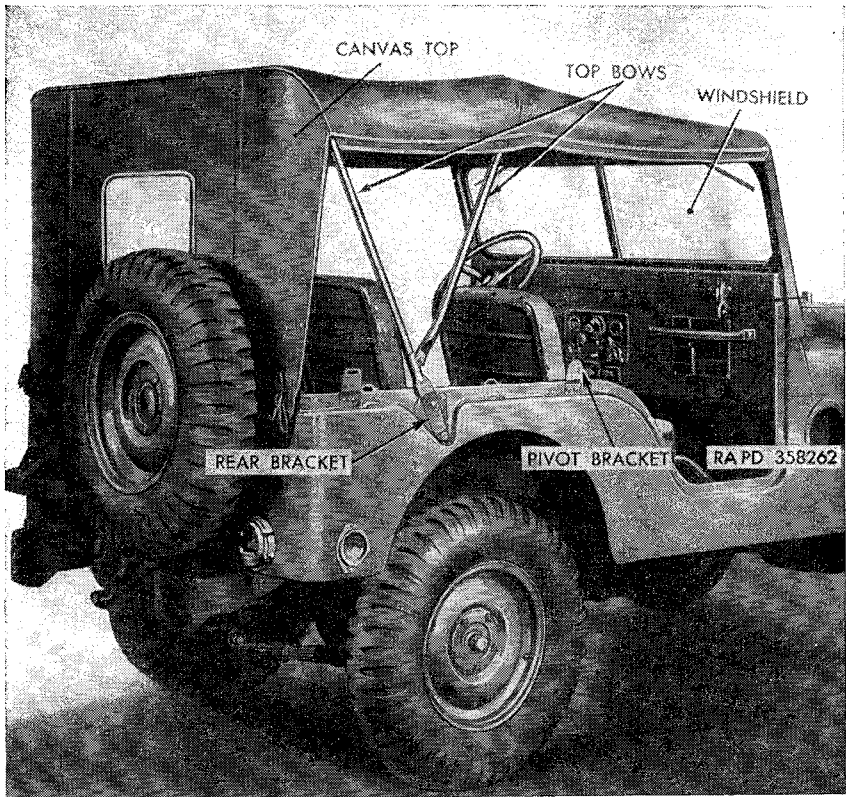

Figure 185. Top cover with rear curtain assembly—installed.
- (3) Lay the top cover with rear curtain assembly (fig. 185) upside down and backward on top of hood assembly.
- (4) Insert the front bead of the top cover into one edge of the top retainer at the top of the windshield. Slide top bead of cover into retainer until bead is centered in place. Flip the top cover over the rear top bow and pull it down to the body rear panel. Secure the top cover to the panel by inserting the six top holddown straps through the six top holddown strap brackets and buckling straps. Secure the top cover bow by fastening the three flaps, mounted on the underside of the top cover, around the front top bow. Secure the top cover to the top rails by hooking the side flaps on the cover over the rails.
- (1) Unbuckle the six holddown straps securing the top cover with rear curtain assembly (fig. 185) to the six top holddown strap brackets and pull the straps out of the brackets. Working inside the vehicle, release the three flaps securing the bottom of the top cover to the front top bow. Release the side flaps from the two top rails. Lift the rear of the top cover with rear curtain over the rear top bow and flip it over the wind-